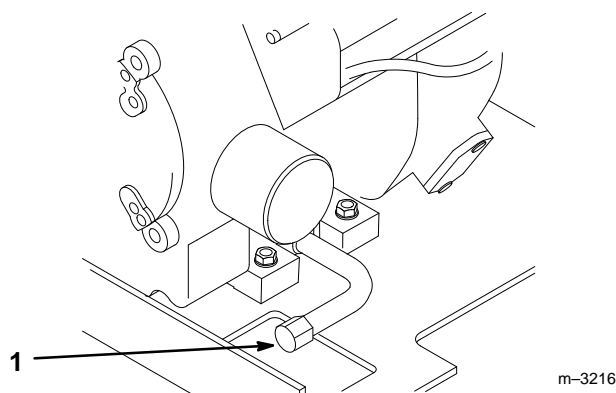

Figure 16
3. Place a pan below the oil drain. Remove the oil drain cap (Fig. 16).
4. Place a pan below the oil drain. Remove the bottom plug (Fig. 16).